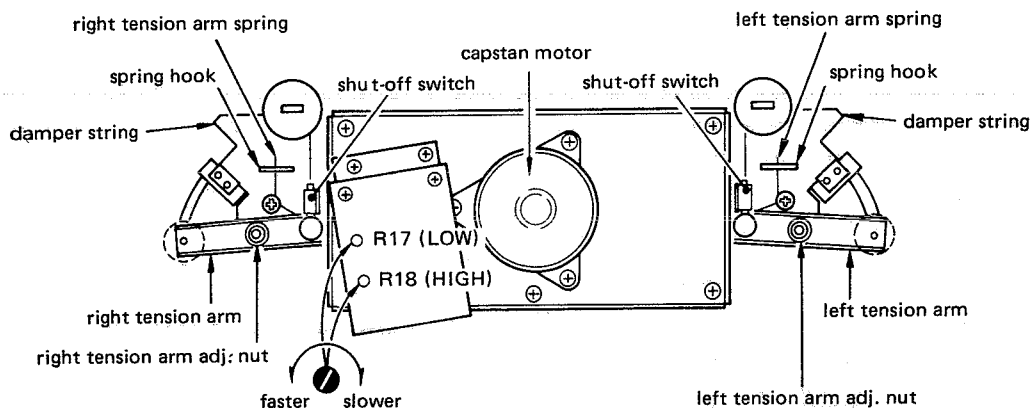

Fig. 2-9 Tension arm height, tension arm force, damper function, and tape speed.
3. Stop left (right) guide roller's rotation by hand. Adjust by turning the left (right) tension arm adjusting nut (refer Fig. 2-9) so that the tape moves in the center of the guide roller.
3. Play the tape. Adjust R18 (see Fig. 2-9) for a reading of 3,000 Hz $\pm$ 5 Hz.